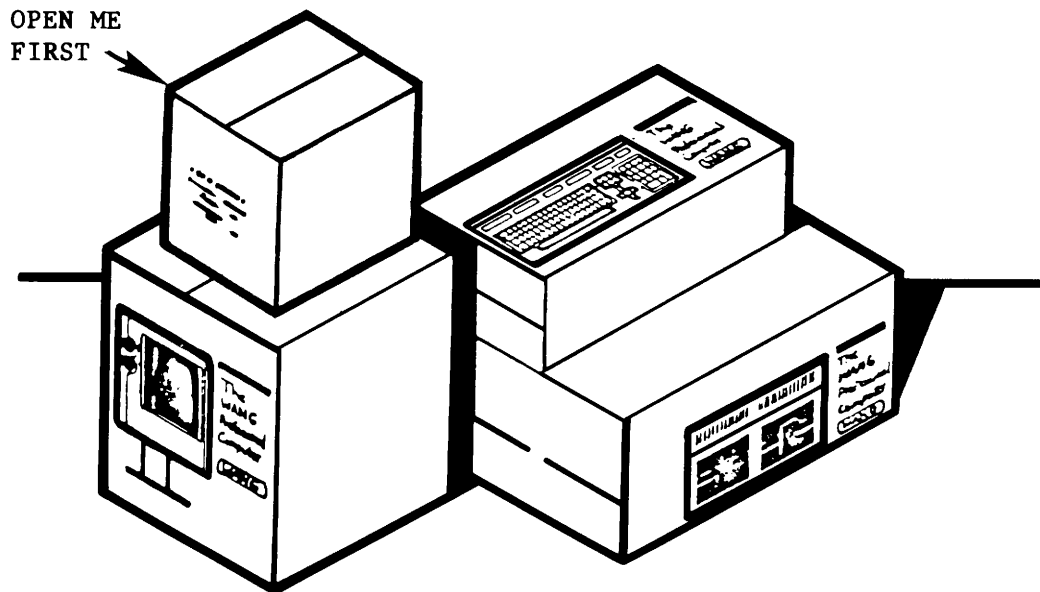

Figure 4-1. The Wang Professional Computer Fully Packaged
The Wang Professional Computer (PC-002) is shipped in four (4) individual boxes. Each of the boxes is labeled with a graphic representation of the component contained in the box. Figure 4-1 shows the PC fully packaged.